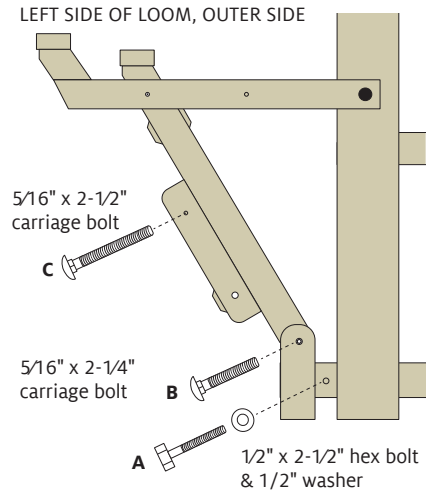

FIGURE 4: INSTALL HARDWARE
**8.** Place a 1/2" washer on the 1/2" x 2-1/2" hex bolt, and insert the bolt through hole [A] in Figure 4 in the left lower side brace from the outside to the inside of the loom. From inside the loom, install another 1/2" washer on the hex bolt.